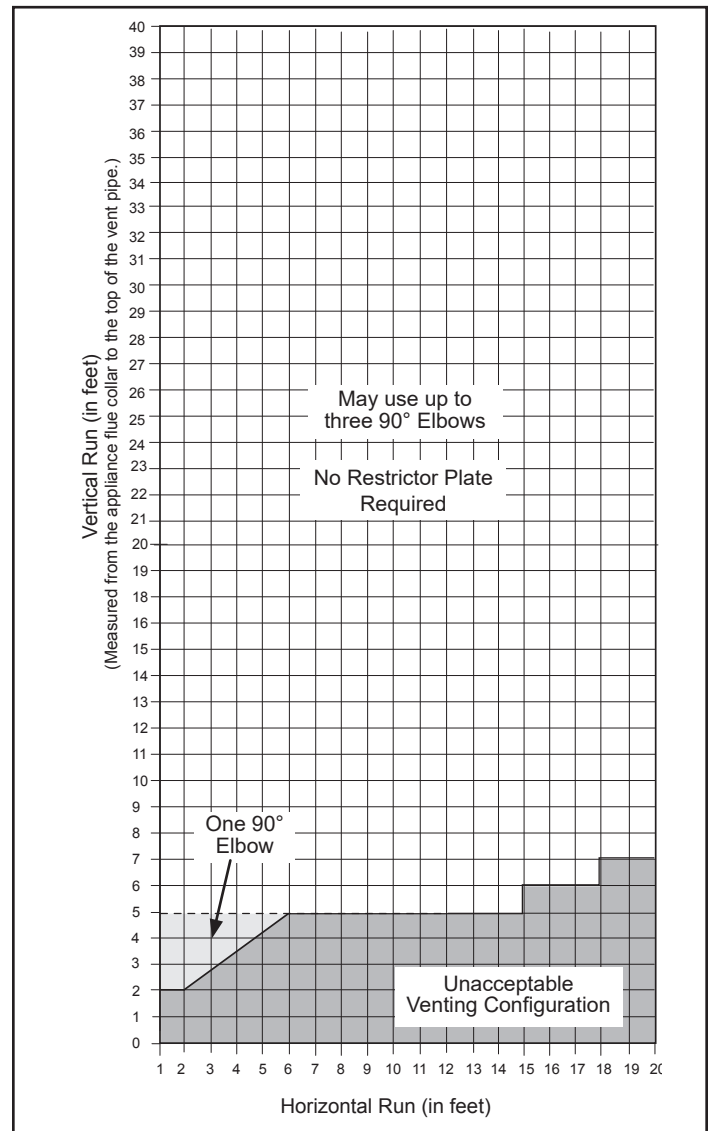

Figure 2.7 - Horizontal vent termination window.
The vent must rise vertically a minimum of 24" (610 mm) off the top of the unit, before the first elbow. The horizontal run may extend up to 20' (6m) and include a vertical rise of up to 40' (12 m). (Figure 2.7) Horizontal termination must also meet the criteria shown in Figures 2.11 and 2.12.
- Approved vent systems must terminate above and including the heavy line in Figure 2.7.